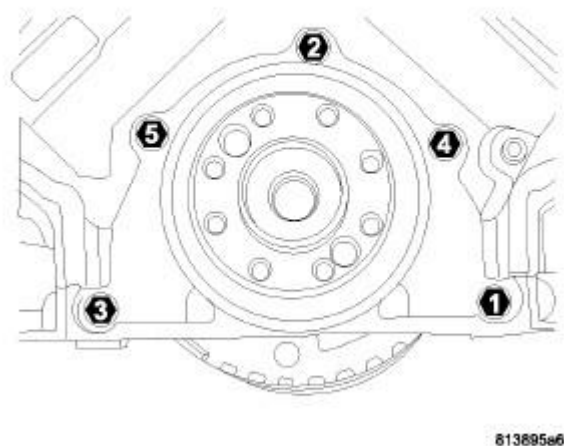

Fig. 178: Rear Seal Retainer Torque Sequence
5. Using the sequence shown in illustration, remove the rear oil seal retainer mounting bolts. See Fig. 178.